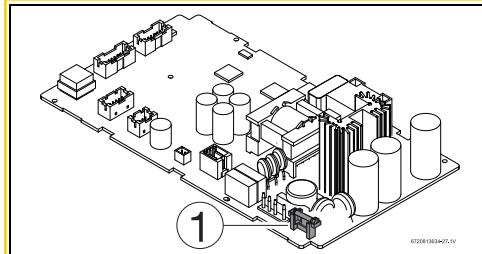

Fig. 38 Fuse position
▶ Check the fuse in the printed circuit board, for electrical continuity, see fig. 38, [1].